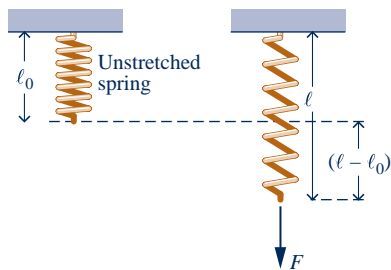

Fig. P2.42
2.42 As shown in Fig. P2.42, a spring having an initial unstretched length of ℓ_0 is stretched by a force F applied at its end. The stretched length is ℓ . By *Hooke's law*, the force is linearly related to the spring extension by $F = k(\ell - \ell_0)$ where k is the *stiffness*. If stiffness is constant,